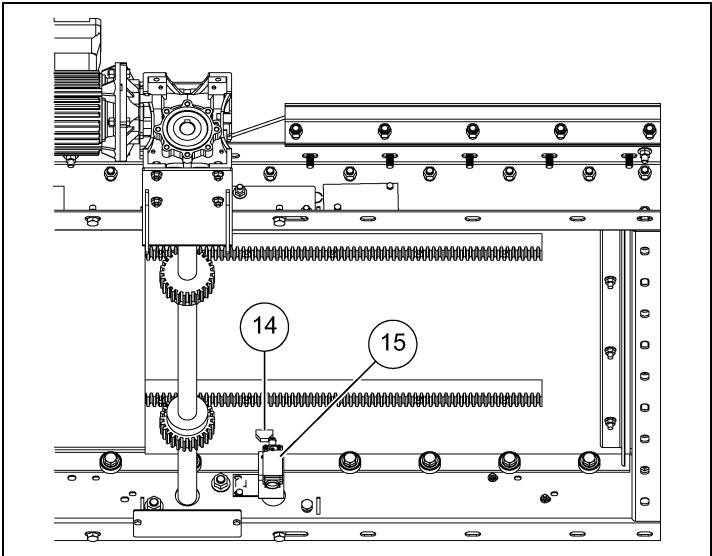

Figure 3H Closed Position
3. Install the switch levers vertically. When the switch target on the gate push in the limit switch arm vertically, the motor will stop. (See Figure 3H and Figure 3I.)